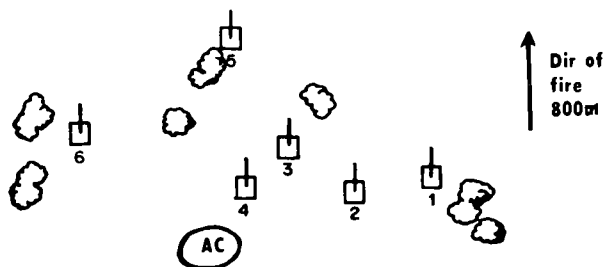

Figure 10-8. Battery position - example.
a. *Situation.* A 155mm M109A1 battery is laid on azimuth 800 (fig 10-8). The center range to be fired is 4900. The BP (#3) is over the BC. The information shown below is furnished to the FDC. Distances were measured by pacing.